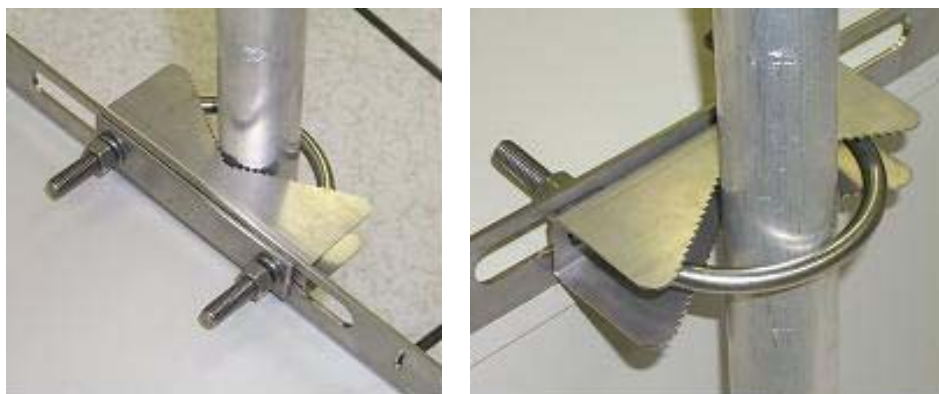

Figure 128: Detail of pole mounting
- a. attach the V-bracket to the pole as shown in Figure 128.
- d. attach the V-bracket to the pole as shown in Figure 128 on Page 342.